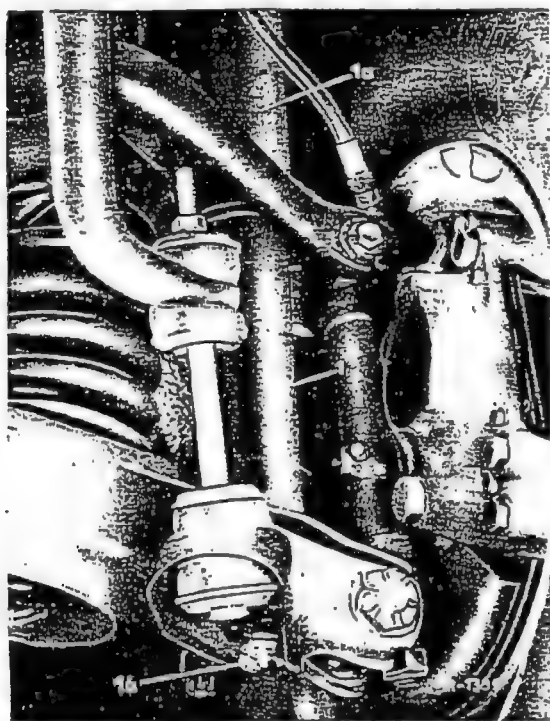

Fig. 32-2/1
2. Detach the lower shock-absorber suspension. To do this, unscrew the two hexagon nuts from the lower control arm (Fig. 32-2/1).